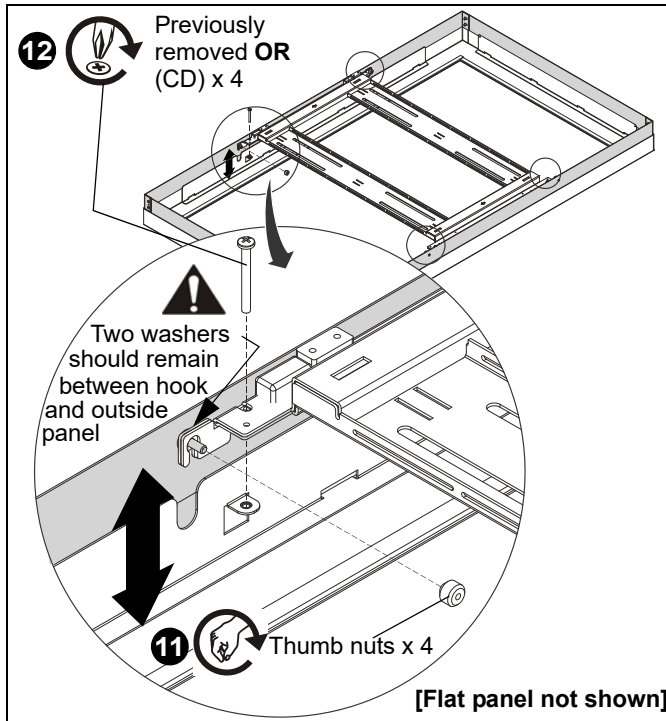

Figure 10
**NOTE:** The outer frame depth may be adjusted between 3" - 5" to make room for a variety of different flat panel thicknesses. (See Figure 10)
- The 4 Phillips screws removed in Step 1 can be replaced with four 10-24 x 2-3/4" Phillips screws (CD) for larger depth adjustments.
11. Tighten thumb nuts over threaded studs in four locations on the hinged frame. (See Figure 10)
12. Replace and fasten four Phillips screws which were removed in Step 1, **OR** replace the removed screws with four 10-24 x 2-3/4" Phillips head screws (CD) to allow for a larger depth adjustment of the outer frame. (See Figure 10)